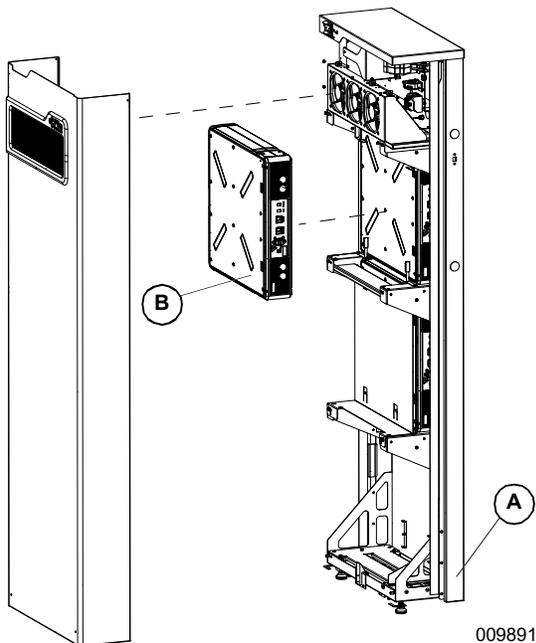

Figure 2-1. Indoor Model Serial Number Location
Refer to **Figure 2-1** to locate serial numbers for the unit (A) and the individual battery modules (B). Record this information in **Table 1: Important Information** on the inside front cover of this manual so it is available if the tags are lost or damaged. When ordering parts or requesting assistance, you may be asked to provide this information.